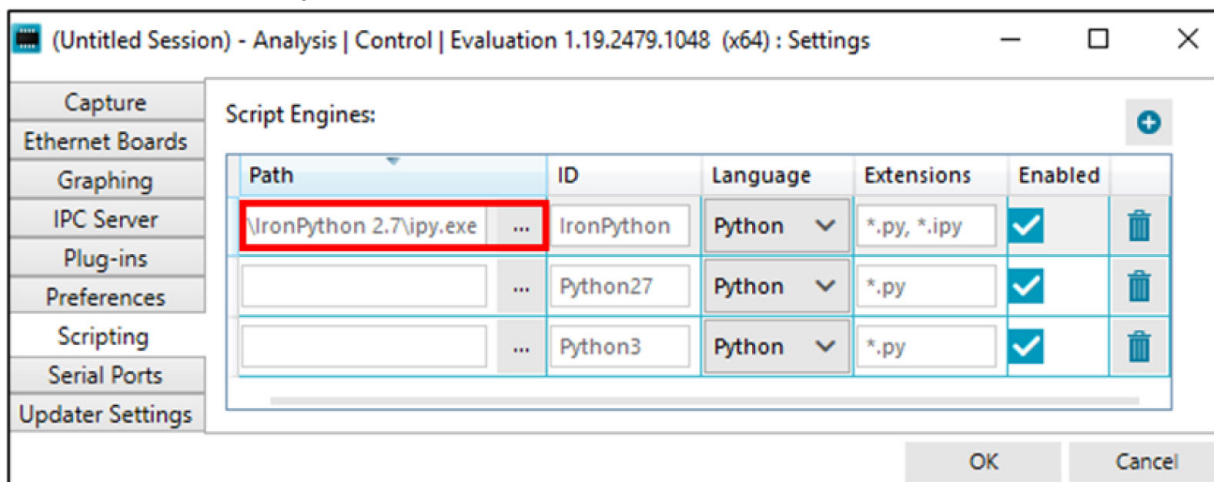

Figure 116. Providing IronPython Path to ACE for Enabling Script Execution
1. Provide a path to the host PC IronPython installation under ACE **Settings > Scripting > Path** as shown in Figure 116. This step only needs to be completed once after installing ACE.